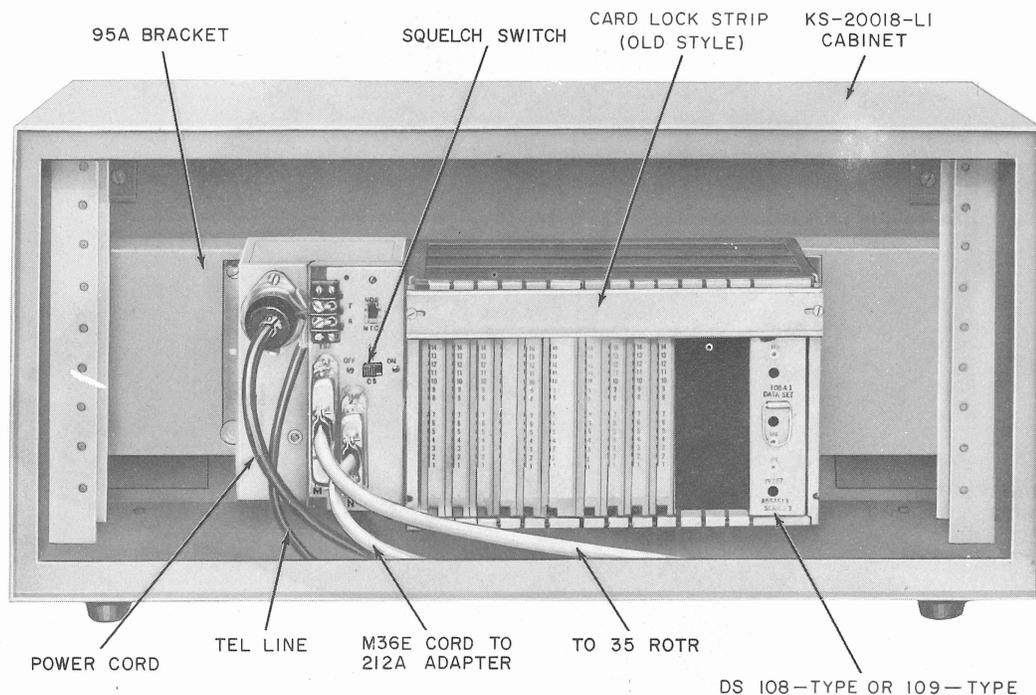

Fig. 3—DAS 820G-L1/5 Mounted in a KS-20018 Cabinet With Front Panel Removed
(2) Lift the panel up to remove it from the frame of the cabinet (see Fig. 3), thereby providing access to the DAS.